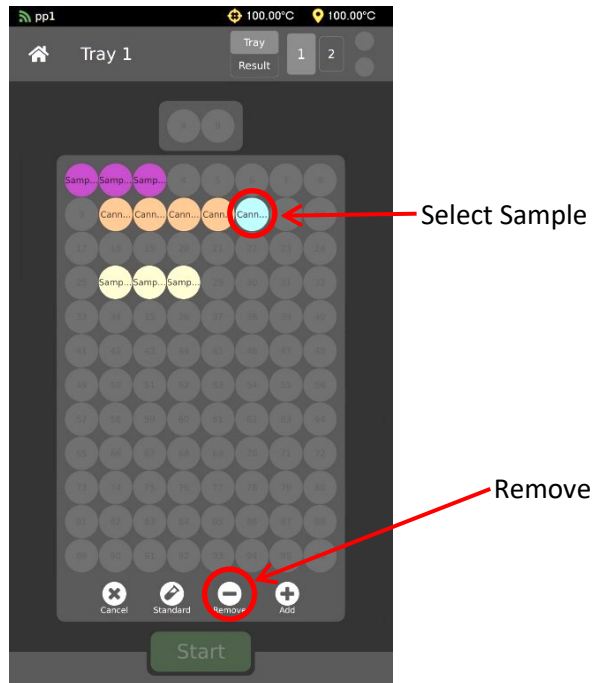

Figure 41: Remove Samples
- To remove samples once they are entered, simply highlight the circle(s) representing the sample(s) you'd like to delete and press the remove button. See Figure 41.